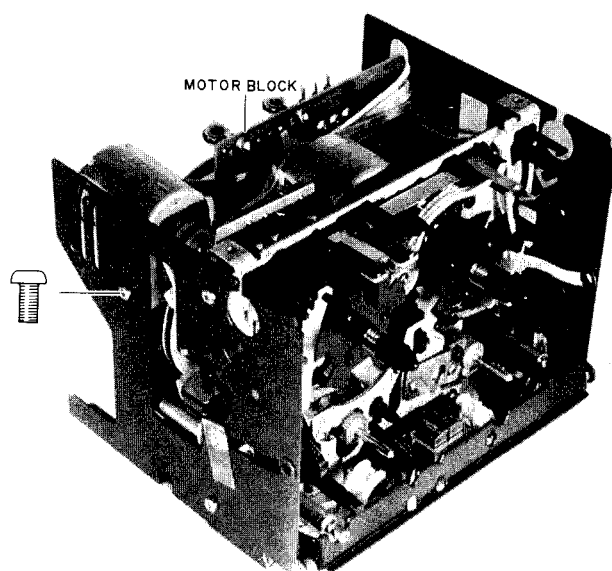

Fig. 4-5
- 2) Remove the MOTOR BLOCK securing screw from the left side panel of the mechanism block. (See Fig. 4-5.)